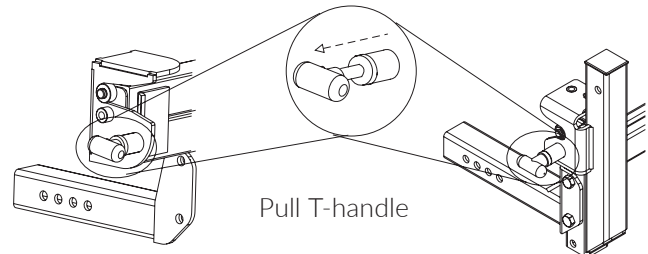

Figure 7-10
2. Pull the T-handle. Grasp the lift firmly and swing it out, away from the vehicle. See Figure 7-10